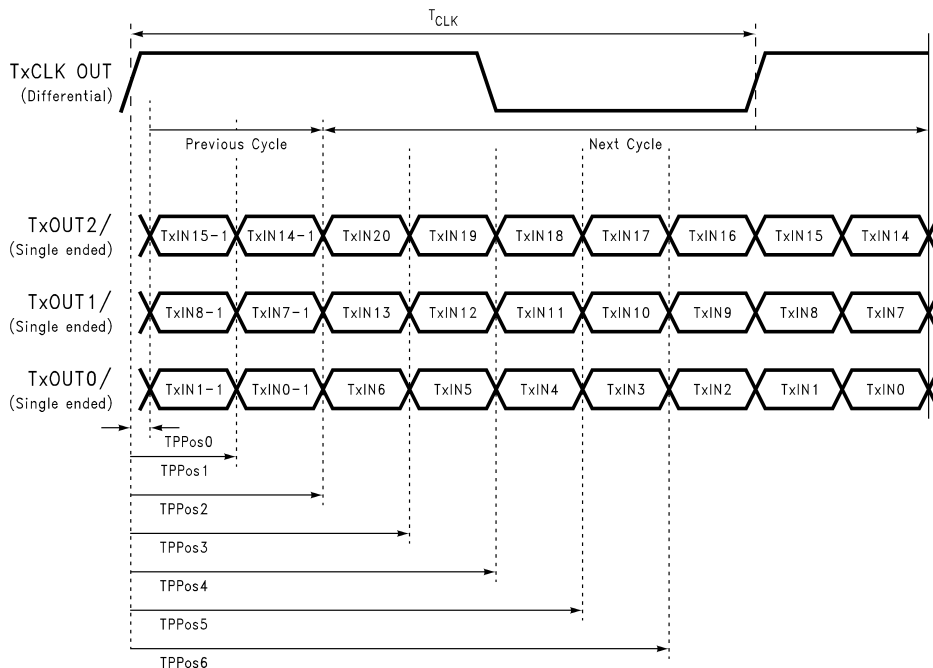

Figure 12. Transmitter LVDS Output Pulse Position Measurement
(1) The Minimum and Maximum Limits are based on statistical analysis of the device performance over process, voltage, and temperature ranges. This parameter is functionality tested only on Automatic Test Equipment (ATE).
(2) The Limits are based on statistical analysis of the device performance over process, voltage, and temperature ranges. Output jitter is measured with a cycle-to-cycle jitter of 3ns applied to the input clock signal. A jitter event of 3ns, represents worse case jump in the clock edge from most Graphics controller VGA chips currently available. This parameter is used when calculating system margin (RSKM). See Figures 12, 13 and AN-1059.
Figures 12 and 13 illustrate the timing of the input clock relative to the input data. The input clock (TxCLKin) is intentionally shifted to the left  $-3ns$  and  $+3ns$  to the right when data (Txin0-27) is high. This 3ns of cycle-to-cycle clock jitter is repeated at a period of  $2\mu s$ , which is the period of the input data ( $1\mu s$  high,  $1\mu s$  low). At different operating frequencies the N Cycle is changed to maintain the desired 3ns cycle-to-cycle jitter at  $2\mu s$  period.